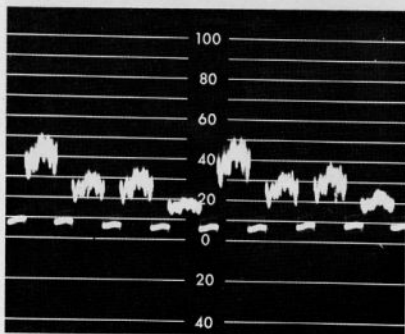

Figure 38—FM LEVEL
25. Observe FM LEVEL on CRO and adjust CT PHASE control until head number 1 plays back vertical sync. See figure 38. Switch picture monitor to PC and press CH ID button on the monitor selector switch. The white ID signal should be setting in vertical interval; if not, readjust tracking. Make a fine adjustment of the CT PHASE control for maximum peak-to-peak signal.